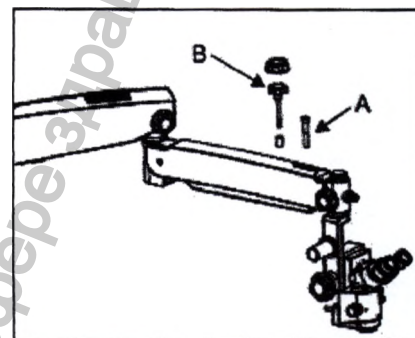

Fig. 10
6.7 Remove cable cover, having squeezing out two screws, located on the top. Pass optic fiber cable. See figure 10.